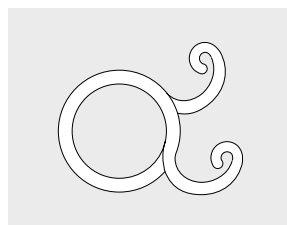

Figura 4.
10. Abrazadera (1 und) (Figura 4)